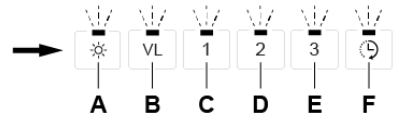

Fig. 13
- The LEDs for all the buttons will flash to indicate successful reprogramming of the operating mode, see Fig. 13.